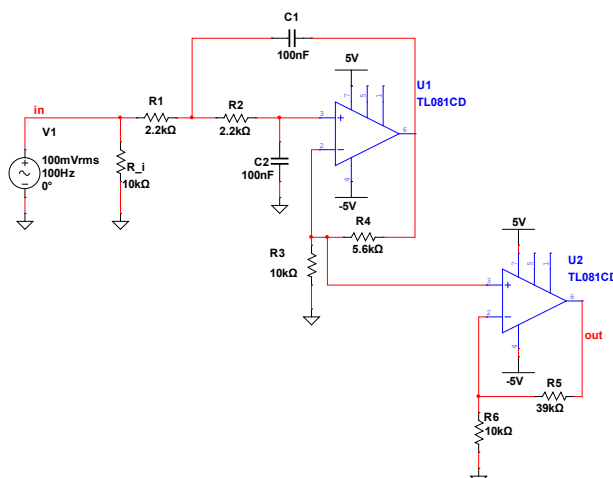

Figure 4 Complete Sallen Key Filter
1. Build the circuit shown in Figure 4. Set $C1 = C2 = 100 \text{ nF}$.